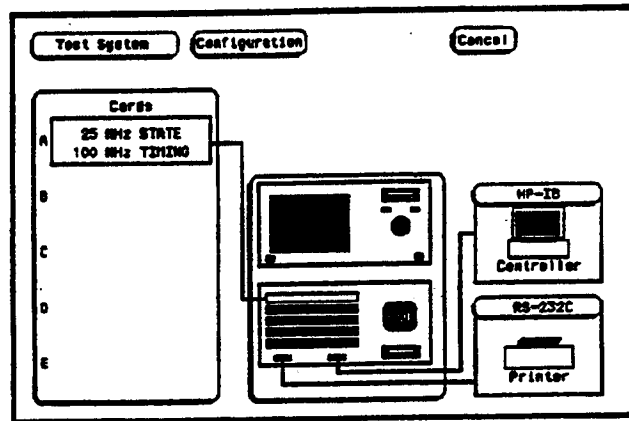

Figure 4-4. Startup Screen
- c. From the startup screen shown in figure 4-4, touch these fields in the ordered sequence below: